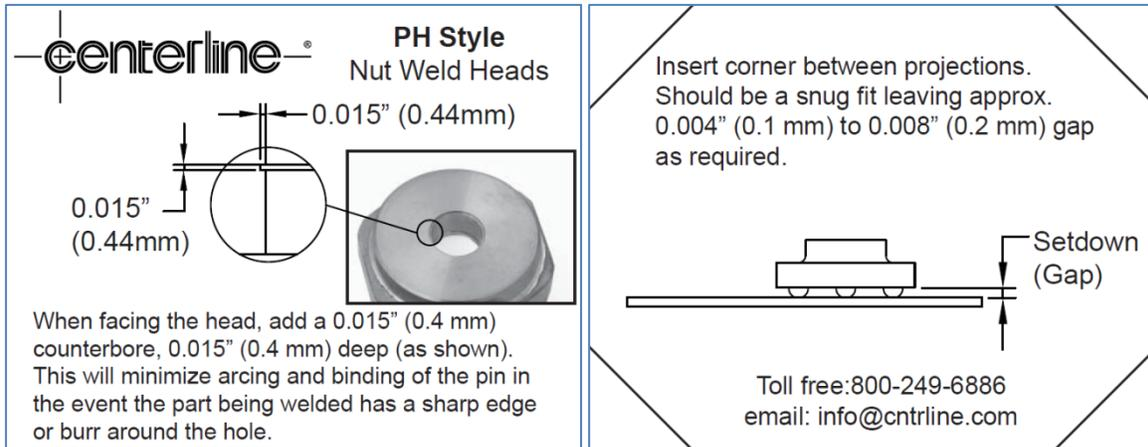

Figure 2
- For **PH Style insulated heads**, follow the guidelines shown in Figure 2. Be sure to machine from the outside edge to the center of the head as previously outlined in Step 3.